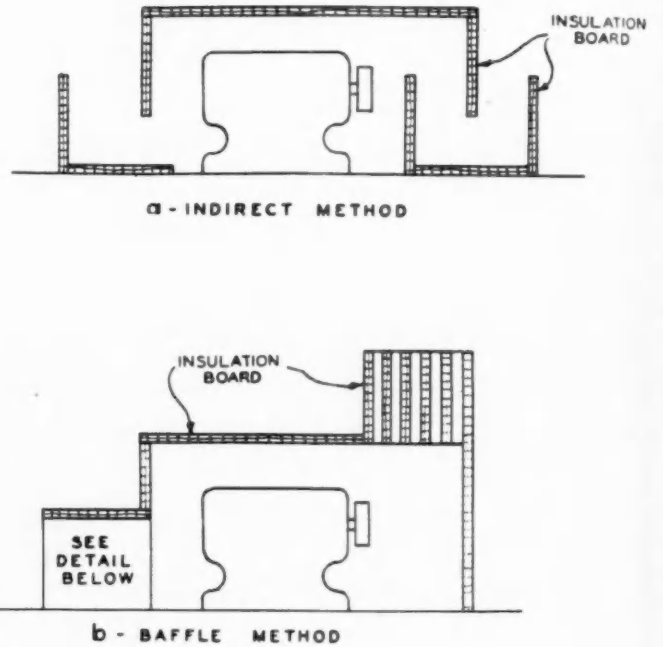

Figure 8. Methods of constructing insulation board hoods for motors and machines.
*Air borne noises* can often be cut down by building a hood lined with insulation board. This type of material is especially satisfactory for this purpose because it is light, provides the necessary sound absorption on the inside of the hood, and does not tend to vibrate. Such hoods should be constructed so as entirely to cover the machine or motor in question. Two suggested constructions are shown in Figure 8.